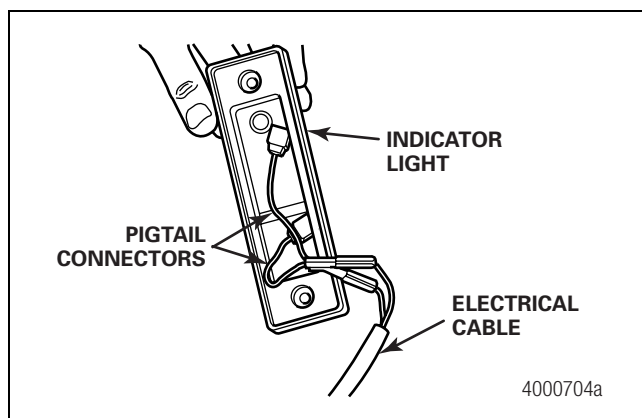

Figure 2.62
1. If the trailer is connected to the tractor, disconnect the battery ground cable. Connect the pigtail connectors to the electrical cable, and then to the indicator light. Figure 2.62.